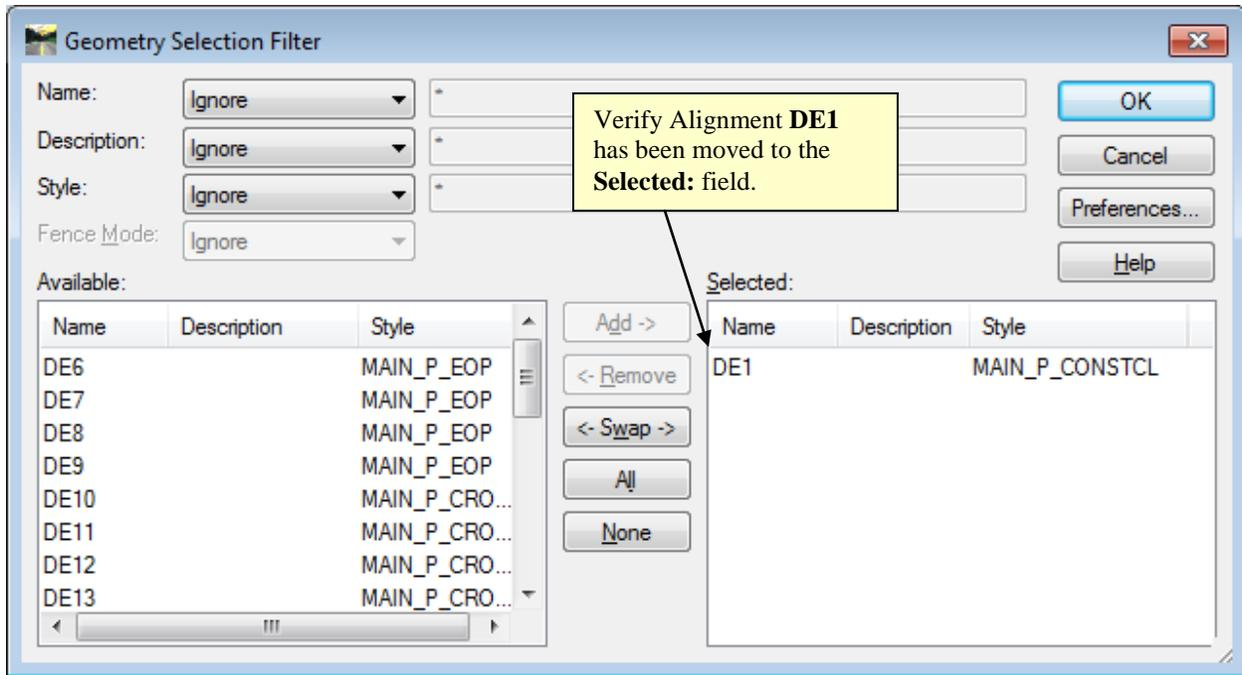

Figure L2-13 Geometry Selection Field
- Verify the **Selected:** field has been populated with Alignment **DE1** as shown in *Figure L2-13*.